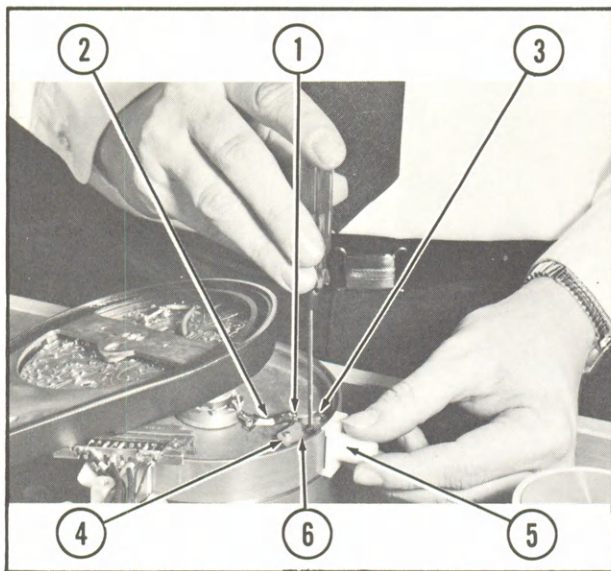

Figure 5-14. Steps for removing video head mounting plate assembly and proper position of tip projection tool.
3. Gently pull the cable socket (Item 1, Figure 5-14) up and away from the video head with a pair of long-nosed pliers.
4. Remove the two slotted brass screws (Item 3, Figure 5-14) and carefully lift out the video head and mounting plate assembly.
7. Place the protruding edge of the projection tool (Item 5, Figure 5-14) over the top edge of the upper drum, directly in line with the video head. While holding the tool firmly in place, loosen the bristol cap screw (Item 6, Figure 5-14) one half turn and retighten. This will allow the spring to project the head against the tip projection tool.